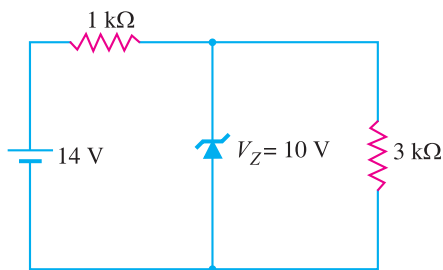

Fig. 6.79
14. In the circuit shown in Fig. 6.79, is zener diode in the on or off state? [Off]